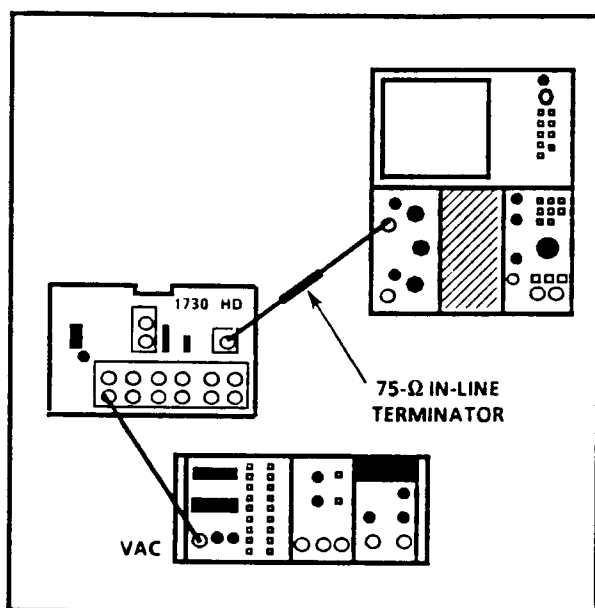

Fig. 5-4. Equipment hook-up for adjustment of input amplifier gains.
- a. Connect a 1 V calibrator signal from the VAC to the 1730 HD CH1A INPUT. Leave the loop-through unterminated. See Fig. 5-4.